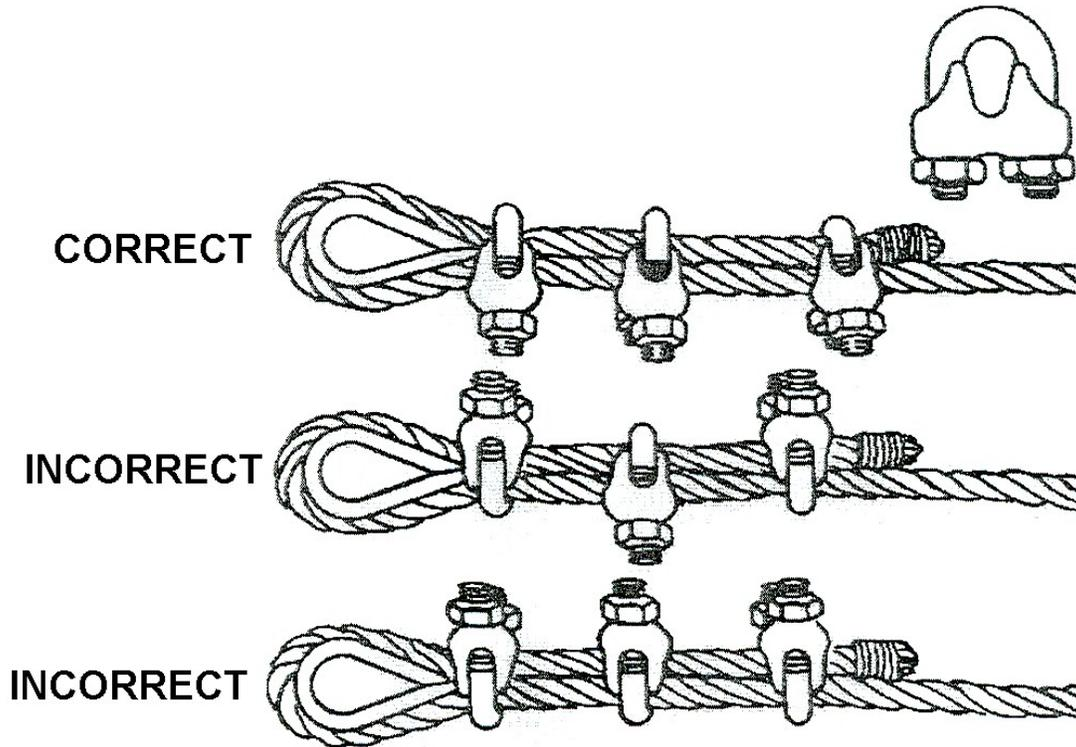

Figure 3-137
3. Direct personnel to apply the clips, spacing them about six rope diameters apart (see Figure 3-137).